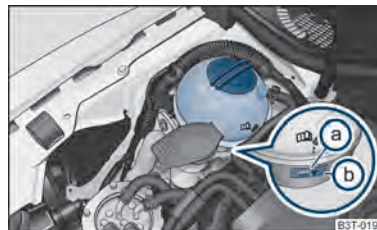

Fig. 174 Engine compartment: Coolant expansion bottle
- Check the level of coolant in the coolant expansion bottle ⇒ fig. 174. The coolant level when the engine is cold must lie between the (b) (MIN) and (a) (MAX) markings. The level may also rise slightly above the (a) (MAX) marking when the engine is warm.
- Place a cloth over the cap of the coolant expansion reservoir ⇒ fig. 174 and unscrew the cap **carefully** by turning it to the left ⇒ ⚠.
Do not fill the coolant above the mark  $\text{⊕}$  (max.) ⇒ fig. 174! Excess coolant heats up and then is forced out of the cooling system through the pressure relief valve in the cap.